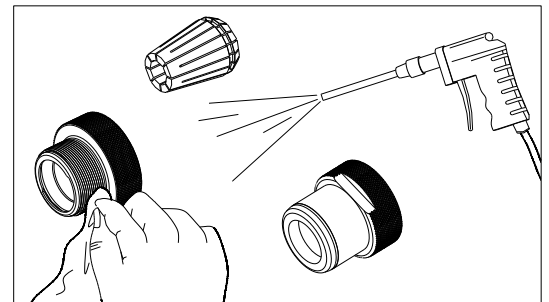
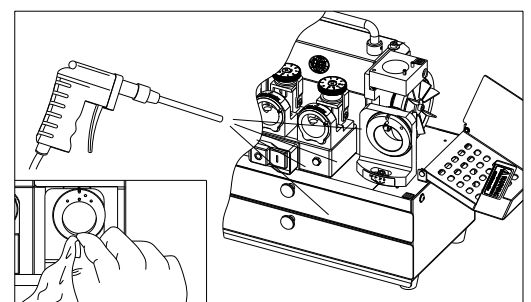

Fig. 20-4
Fig. 20-5
2. Cleaning(Fig. 20-4) (Fig. 20-5)
- ① Please unplug the power cord.
- ② Open the grinding wheel protection cover on both sides.
- ③ Take out all bushing and disassemble the Chuck set.
- ④ Use air press gun to clean all the used accessories, clean all sharpened dusts from the machine.
- ⑤ Clean all accessories with cloth, then put them back to the original position.
- ⑥ Close both sides wheel cover and tighten the cover by fixing screw.